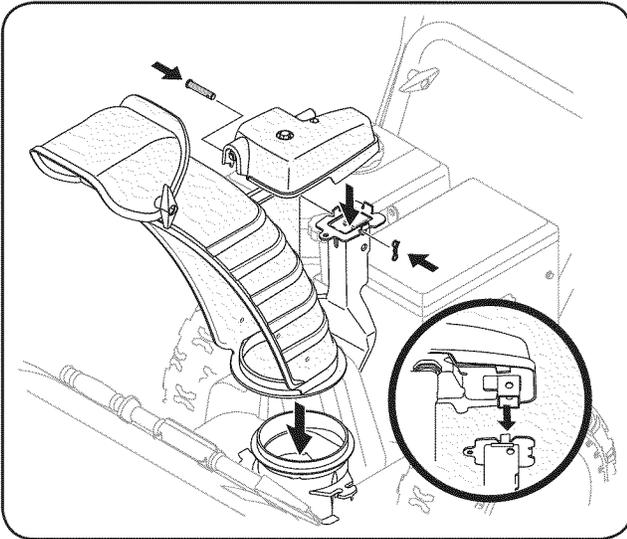

Figure 3-13
- Place chute assembly onto chute base and secure chute control assembly to chute support bracket with clevis pin and cotter pin removed earlier. See Fig. 3-13.